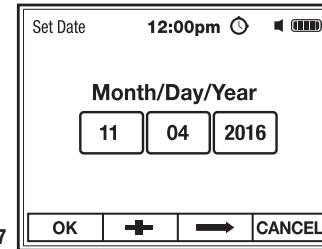

Fig. 27
2. Use the **F2 +** soft key to set numeric value (highlighted in red), (Fig. 27).
3. Use the **F3** \Rightarrow soft key to select Month, Day or Year (Fig. 27).
4. Press the **F1 OK** soft key to save setting and return to Date/Time Menu (Fig. 27).